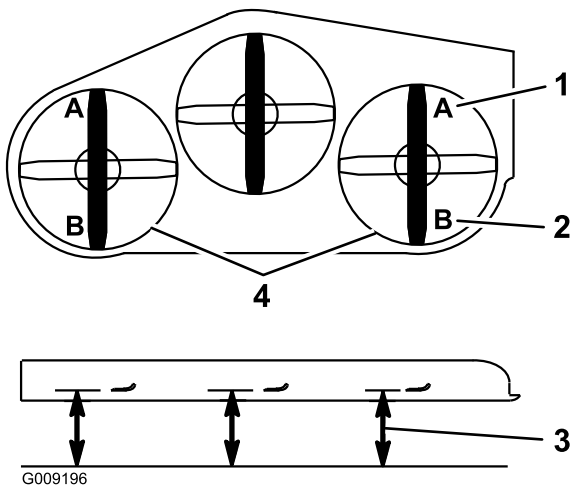

Figure 86
9. On both sides of the deck, measure from the level surface to the front tip of the blade (Position A). The measurement should read 3 inches (7.6 mm) (Figure 86).
15. On both sides of the deck, measure from the level surface to the back tip of the blade (Position B). The measurement should read $3 \frac{1}{4}$ inches (8.3 cm) (Figure 86).